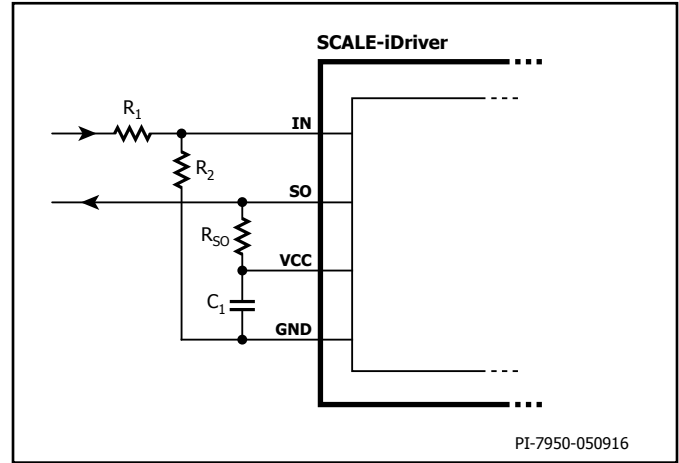
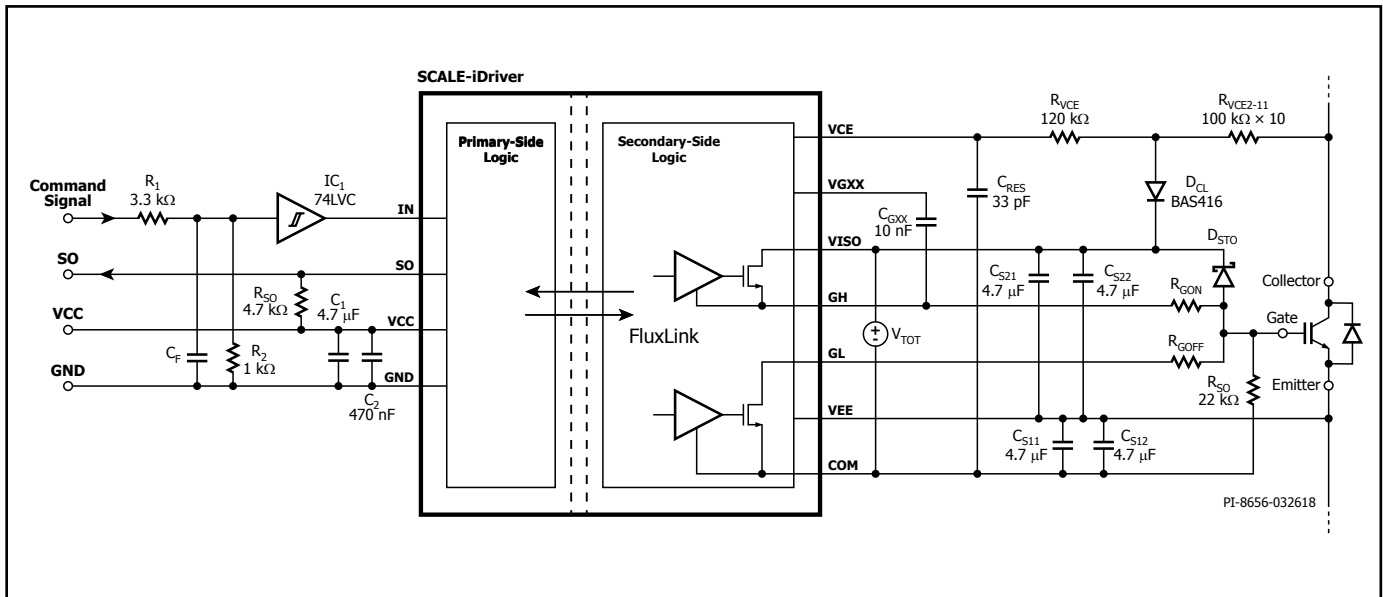

Figure 5. Increased Threshold Voltages V_{IN+LT} and V_{IN+HT} For $R_1 = 3.3 \text{ k}\Omega$ and $R_2 = 1 \text{ k}\Omega$ the IN Logic Level is 15 V.
Figure 13. SCALE-iDriver Application Example Using a Resistor Network for Desaturation Detection.
The input (IN) and output (SO) logic is designed to work directly with micro-controllers using 5 V CMOS logic. If the physical distance between the controller and the SCALE-iDriver is large or if a different logic level is required the resistive divider in Figure 5, or Schmitt-trigger ICs (Figures 13 and 14) can be used. Both solutions adjust the logic level as necessary and will also improve the driver's noise immunity.
and power-down. Any supply voltage related to VCC, VISO, VEE and VGXX pins should be stabilized using ceramic capacitors C_1 , C_{S1X} , C_{S2X} , C_{GXX} respectively as shown in Figures 13 and 14. After supply voltages reach their nominal values, the driver will begin to function after a time delay t_{START} .
Figures 13 and 14 show the schematic and typical components used for a SCALE-iDriver design. In both cases the primary-side supply voltage (V_{VCC}) is connected between VCC and GND pins and supported through a supply bypass ceramic capacitor C_1 (4.7 μ F typically). If the command signal voltage level is higher than the rated IN pin voltage (in this case 15 V) a resistive voltage divider should be used. Additional capacitor C_F and Schmitt trigger IC_1 can be used to provide input signal filtering. The SO output has 5 V logic and the R_{SO} is selected so that it does not exceed absolute maximum rated I_{SO} current.
Figure 13 shows how switch desaturation can be measured using resistors $R_{VCE2} - R_{VCE11}$. In this example all the resistors have a value of 100 kΩ using 1206 package. The total resistance is 1 MΩ. The resistors should be chosen to limit current to between 0.6 mA to 0.8 mA at maximum DC-link voltage. The sum of $R_{VCE2} - R_{VCE11}$ should be approximately 1 MΩ for 1200 V semiconductors and 500 kΩ for 600 V semiconductors. In each case the resistor string must provide sufficient creepage and clearance distances between collector of the semiconductor and SCALE-iDriver. The low leakage diode D_{CL} keeps the short-circuit duration constant over a wide DC-link voltage range.
Table 2. PCB Layout and Component Guidelines Referring to Figure 13.
Table 2 (cont). PCB Layout and Component Guidelines Referring to Figure 13.